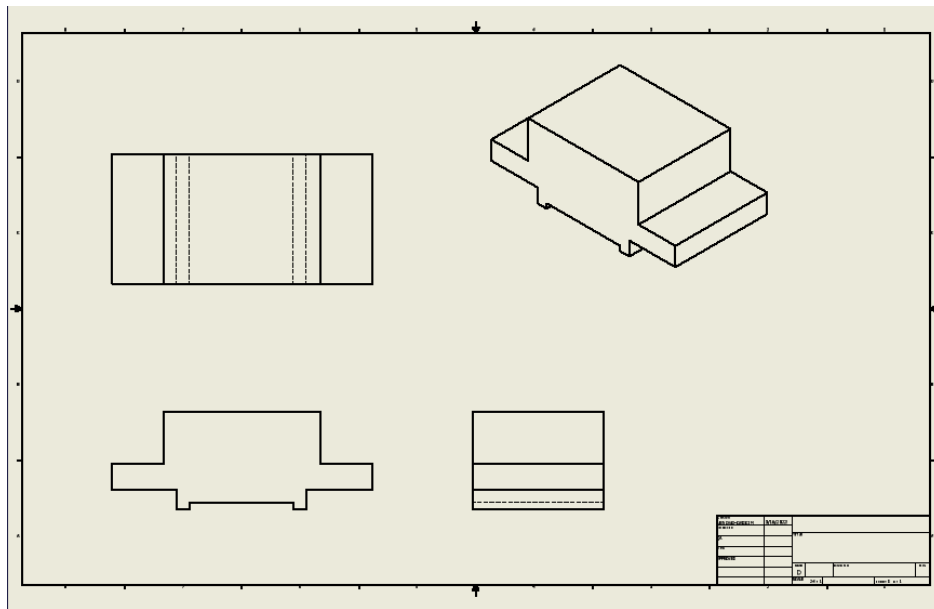

Figure 2-89 Drawing sheet after generating the drawing views
5. Similarly, taking the front view as the parent view, generate the drawing of right-side view and the isometric view, as shown in Figure 2-89.